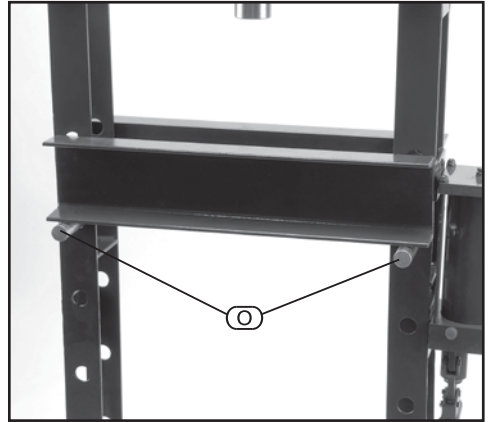

FIG.11
8.7 SETTING THE TABLE - FIGS. 11 - 12